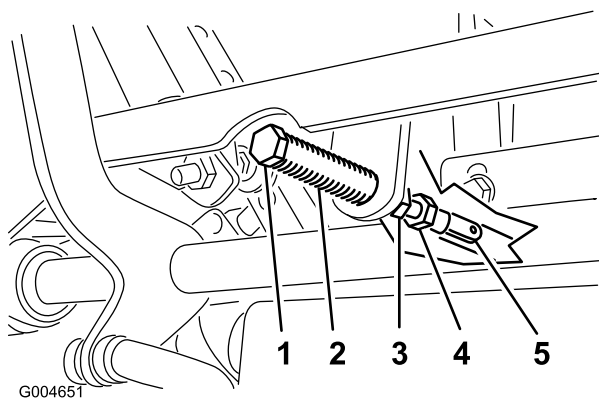

Figure 61
5. Pull the lever back until the clevis pin (on an arm above the pivot shaft) contacts the end of the slot (just beginning to put pressure on the spring) (Figure 61).
7. If adjustment is needed, loosen the nut and jam nut against the yoke (Figure 61).
8. Applying slight rearward pressure on the motion control lever, turn the head of the adjustment bolt in the appropriate direction until the control lever is centered in the neutral lock position (Figure 61).
9. Tighten the nut and jam nut (Figure 61).
9. Tighten the jam nuts at the ball joints (Figure 61).